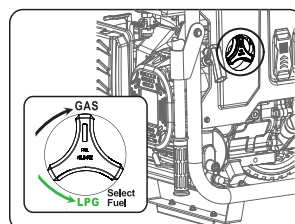

Fig 12
- Turn the fuel selector to “GAS” position (See fig 12)
- Turn the fuel selector to “LPG” position (See fig 12)